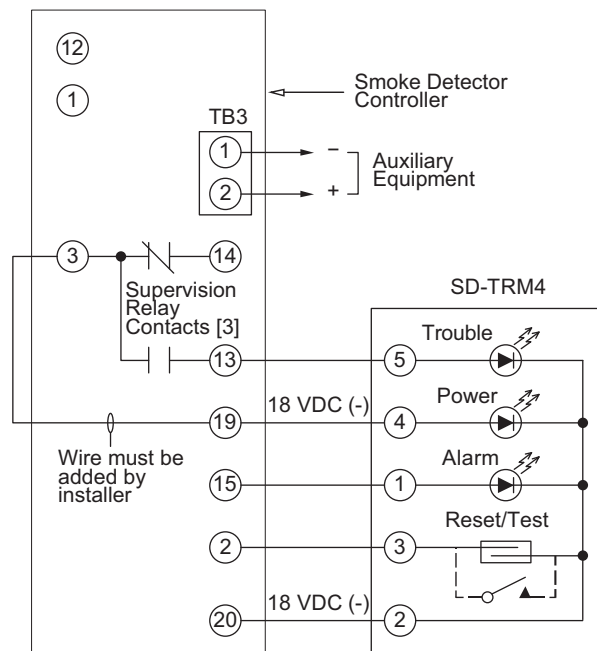

Fig. 43 — Remote Test/Reset Station Connections
The test/reset station dirty sensor test checks the test/reset station's ability to initiate a sensor dirty test and indicate the results. It must be wired to the controller as shown in Fig. 43 and configured to operate the controller's supervision relay. For more information, see "Dirty Sensor Test" on page 24.
1. Verify that the remote test/station is wired as shown in Fig. 43. Repair or replace loose or missing wiring.